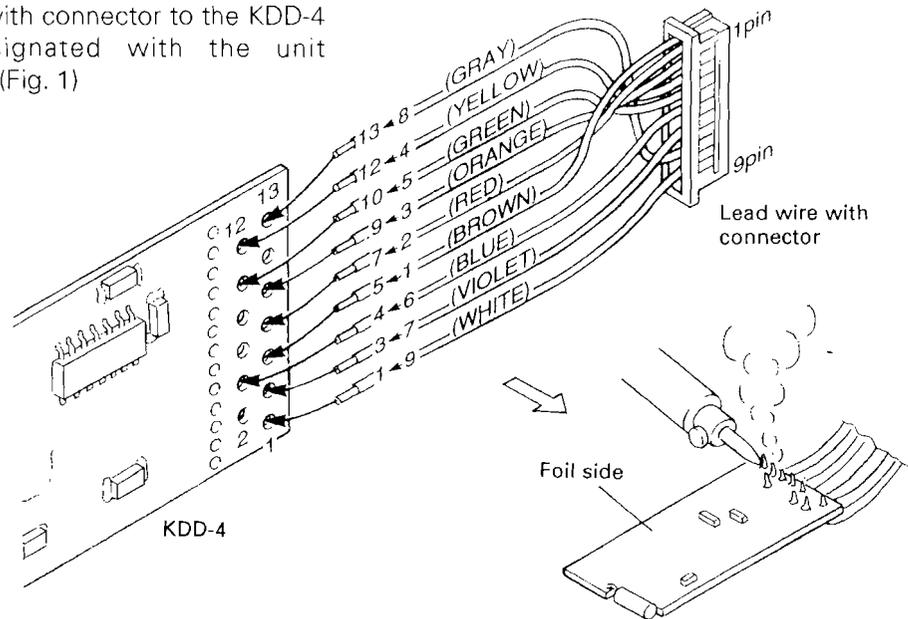

Fig. 1
1. Solder the 9-pin leads with connector to the KDD-4 board locations designated with the unit specification numbers. (Fig. 1)